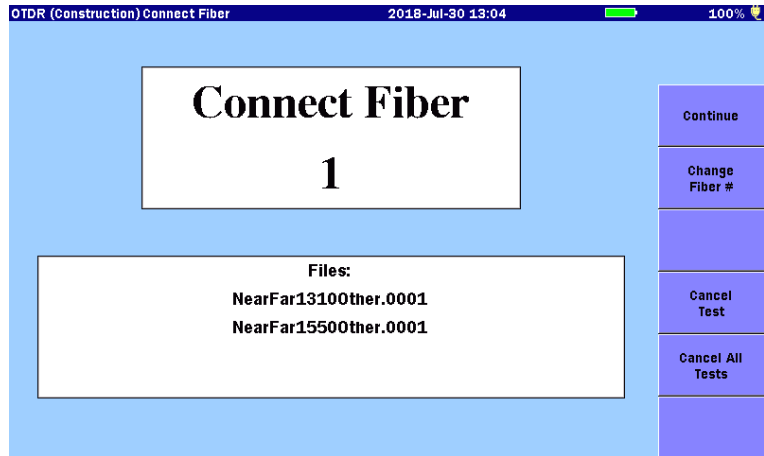

Figure 6.4-1 Connect Fiber Screen
The ACCESS Master starts testing the fiber when touching **Continue** on the Connect Fiber Screen (Figure 6.4-1). When **Connection Check** is selected on the OTDR (Construction) Setup Screen (Figure 6.3-1), the Connection Check screen is displayed..
6. Touch **Continue**. The Connect Fiber Screen (Figure 6.4-1) is displayed.